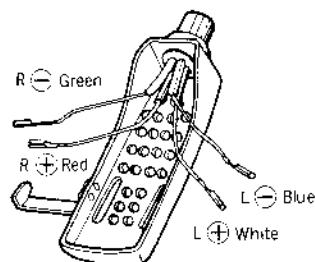

Fig. 6
##### (2) The polarities and L, R channel of the lead wire of the head shell are shown in Fig. 6. The connection should be done according to the terminal indication of the cartridge.